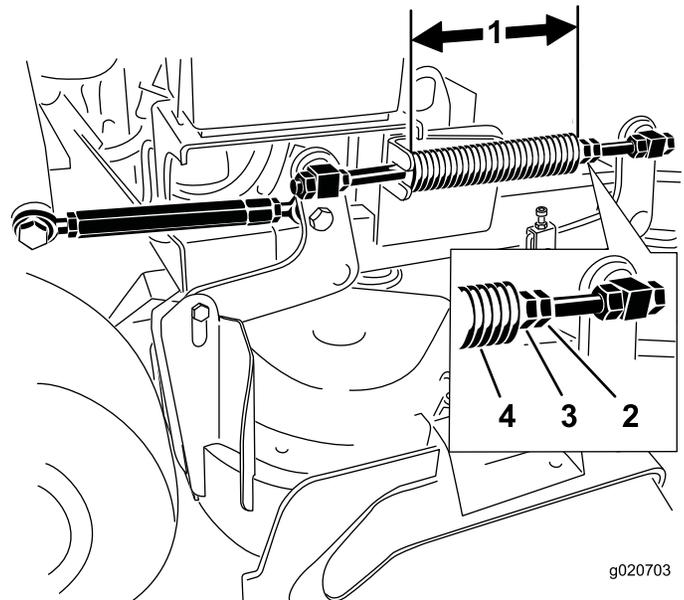

Figure 88
Note: Nominal length is 28.2 cm (11-1/8 inches) for 91 cm (36 inch) mower decks and 25.7 cm (10-1/8 inches) for 102 cm (40 inch) mower decks (Figure 88).
3. Adjust this distance, by loosening the spring-jam nut and turning the nut in front of each spring (Figure 88).
4. Lock the nut into position by tightening the spring-jam nut (Figure 88).